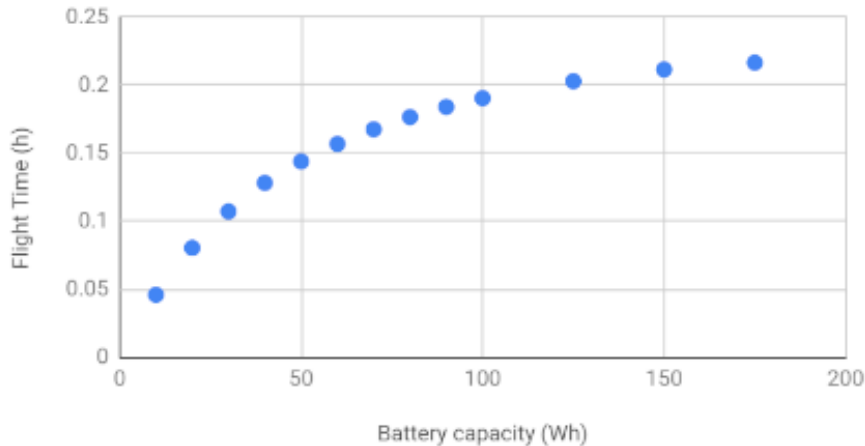

Figure 14: Flight time vs. battery capacity
- Increasing battery capacity will give you more flight time, but with diminishing returns as the mass of the battery increases (figure 14)